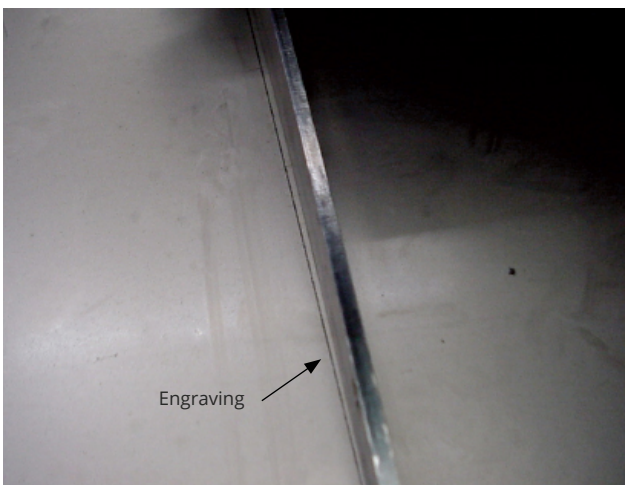

Fig. 4.7
- This technique is also only possible on laser-cut sheet metal. (Fig. 4.7)